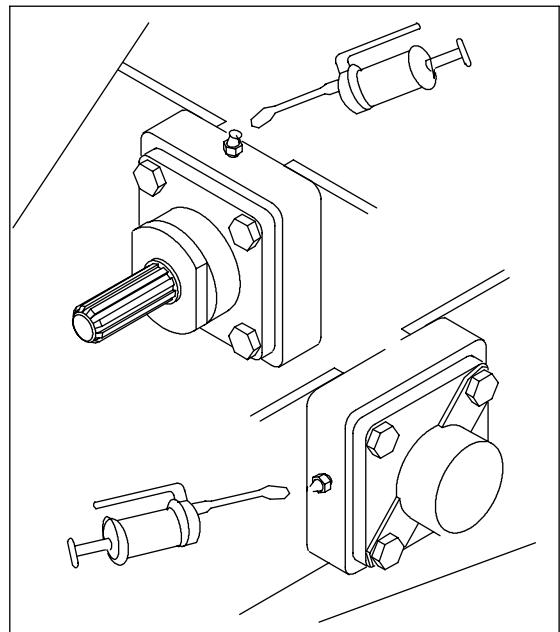

Fig 12. Lubricating the bearings
- Lubricate the bearings every 200 working hours or at least once a year. See Fig. 12..